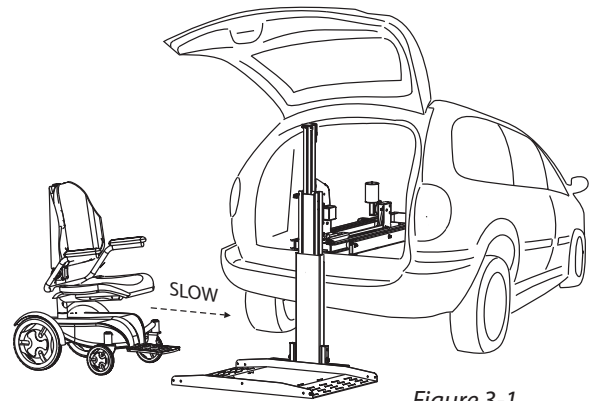

Figure 3-1
1. Drive Chair/Scooter onto Platform. Set your chair or scooter's speed control to slow speed to maneuver easily onto the platform. [Figure 3-1] You can drive onto the platform from either side.